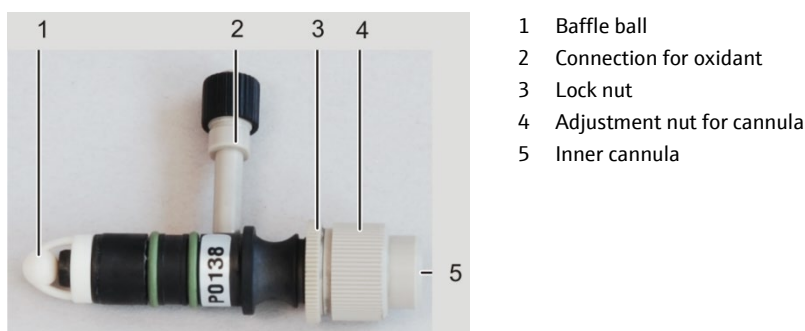

Fig. 62 Components of the nebulizer
Loosen the lock nut (3 in Fig. 62). Adjust the depth of the cannula (4 in Fig. 62) with the adjustment nut.
8. After the adjustment, secure the adjustment with lock nut (3 in Fig. 62).